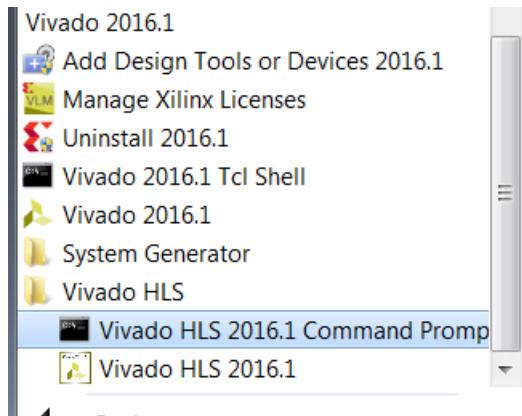

Figure 6-1: Vivado HLS Command Prompt
- On Windows click **Start > All Programs > Xilinx Design Tools > Vivado 2016.1 > Vivado HLS > Vivado HLS 2016.1 Command Prompt** (Figure 6-1).